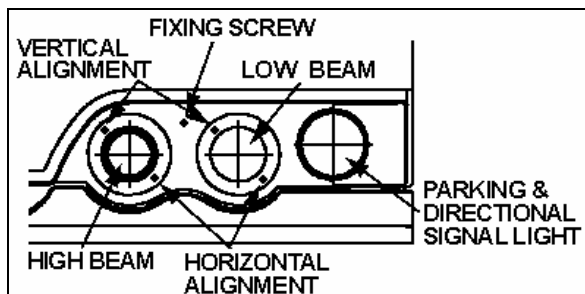

FIGURE 24: HEADLIGHT ASSEMBLY
Headlight aim should be checked after installing a new bulb. Aiming can be performed without opening headlight assembly. Horizontal and vertical aiming of each module is provided by two adjusting screws that pivot the module in the housing for proper alignment (fig. 24). There is no adjustment for focus since the module is set for proper focus during manufacturing assembly.
2. Remove the headlight screw fixing the headlight assembly, then tilt headlight assembly down (Fig. 24 and 25).